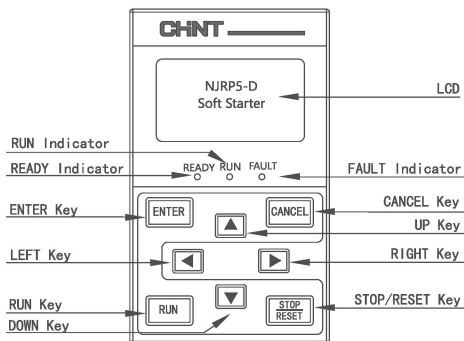

Figure 6.1a) Schematic diagram of operation panel
6.4.1 Figure 6.1a): Schematic diagram of operation panel.